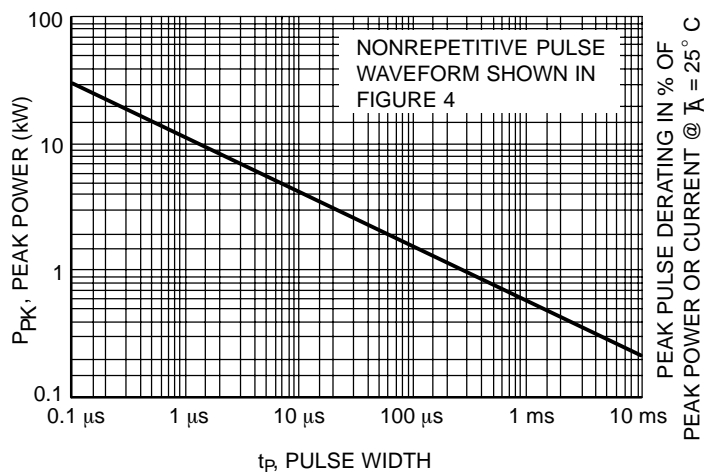
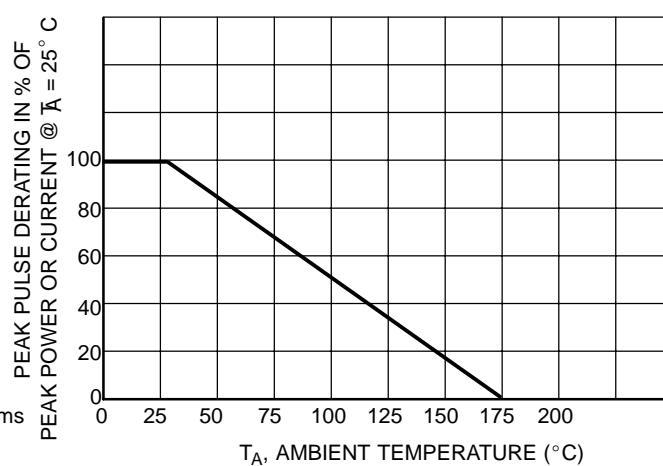
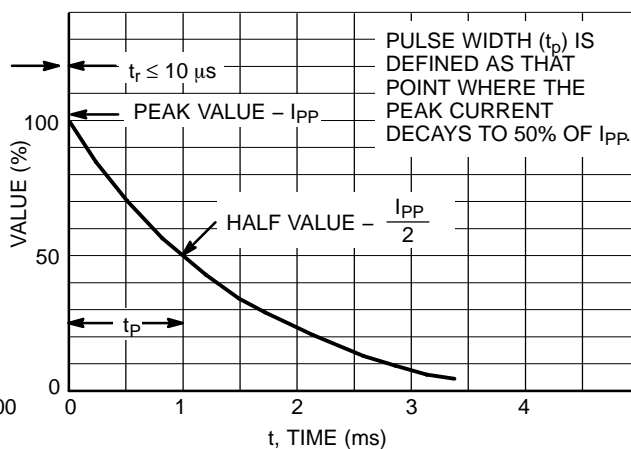
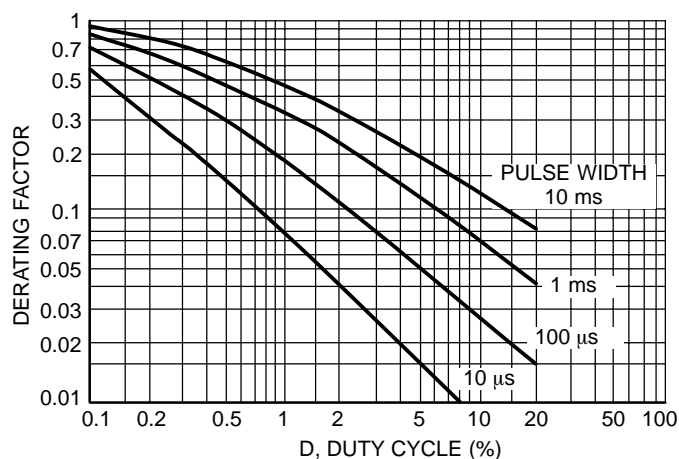

Figure 1. Pulse Rating Curve
Figure 2. Pulse Derating Curve
Figure 4. Pulse Waveform
Figure 6. Typical Derating Factor for Duty Cycle
1. Nonrepetitive current pulse per Figure 4 and derated above $T_A = 25^\circ\text{C}$ per Figure 2.
5. Surge current waveform per Figure 4 and derate per Figures 1 and 2.
The data of Figure 1 applies for non-repetitive conditions and at a lead temperature of 25°C . If the duty cycle increases, the peak power must be reduced as indicated by the curves of Figure 6. Average power must be derated as the lead or ambient temperature rises above 25°C . The average power derating curve normally given on data sheets may be normalized and used for this purpose.
At first glance the derating curves of Figure 6 appear to be in error as the 10 ms pulse has a higher derating factor than the 10 μs pulse. However, when the derating factor for a given pulse of Figure 6 is multiplied by the peak power value of Figure 1 for the same pulse, the results follow the expected trend.